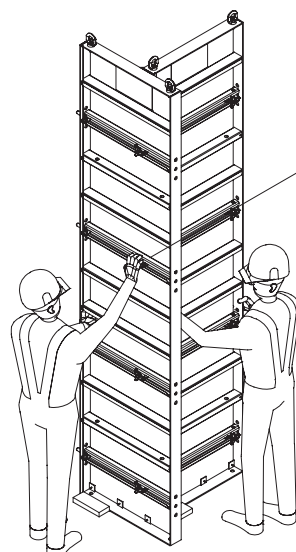

Fig. B1.04
5. Insert Column Tie Bolts (2.1) through the panel frame and formlining and tighten Column Tie Nuts (2.2) with a hammer or LICO Spanner. (Fig. B1.04 + B1.04a)